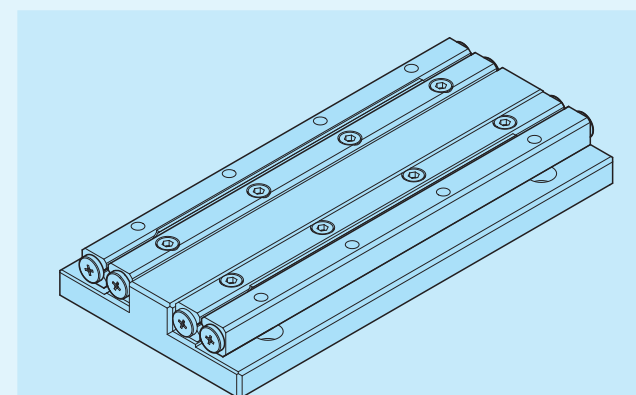

Fig. 20
- Position the table-side way approximately in the stroke center position. (Refer to Fig. 20)